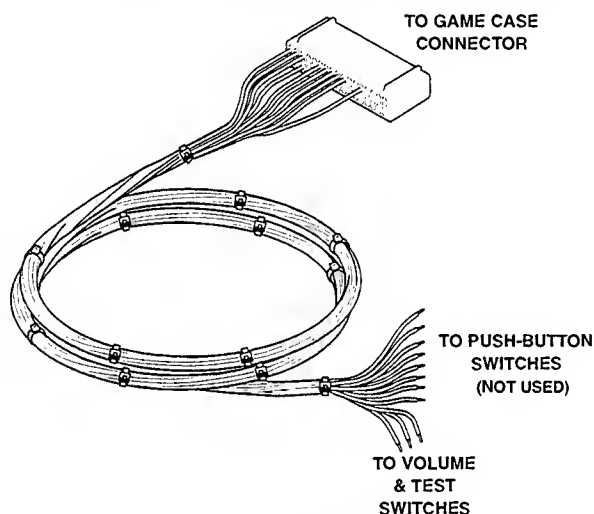

FIGURE 6
21. Reconnect the existing JAMMA connectors to the control panel according to the chart of Figure 6.
Wiring of the Test Bracket requires connections to both the main JAMMA harness as well as the auxiliary cable harness (refer to Figures 6, 8, & 10).